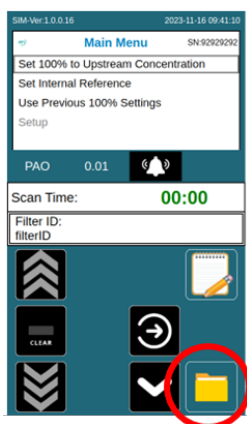

Figure 17. File manager key
Step 1. Press the File Manager key (Figure 17)